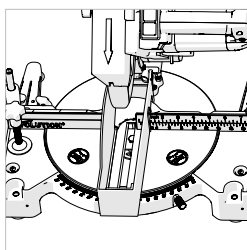

Fig. 16
- Position the Auxiliary Lower Blade Guard on the Rotary Table over the table insert and straddling the Fence. (**Fig. 16**)